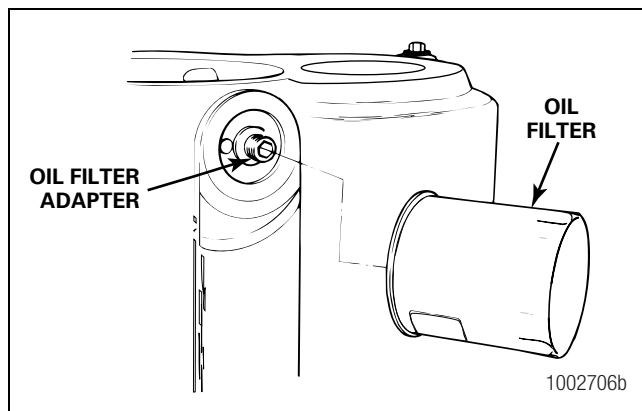

Figure 5.118
18. If removed, install the oil filter adapter onto the differential carrier. Use Meritor specification 2297-T-4180 adhesive or equivalent. Refer to Section 4. Tighten the adapter to 40-60 lb-ft (55-80 N•m). Figure 5.118.
19. Apply axle lubricant to the gasket of the new oil filter. Install the oil filter onto the adapter. When the gasket on the filter contacts the carrier, tighten the oil filter an additional 3/4 of a turn. If necessary, use an oil filter wrench to tighten the filter. Figure 5.118.